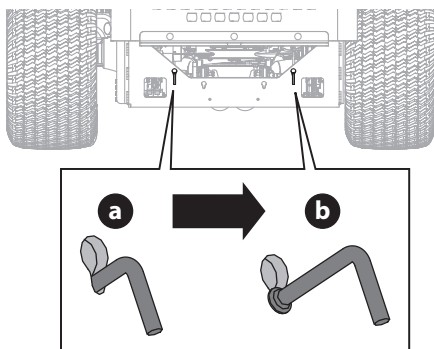

Figure 42
1. To engage the transmission bypass rods, pull the rod (a) up into the larger opening of the key slot, then pull back until the collar on the rod passes through the frame (Figure 42).
2. Lower the rod back into the smaller opening of the key slot, making sure the collar is secured on the outside of the frame (b). Repeat on opposite side (Figure 42).